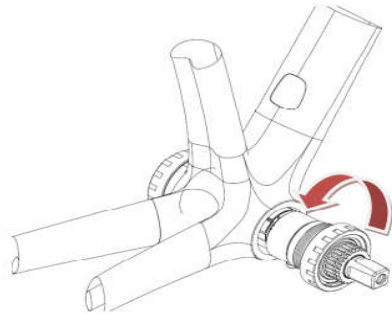

Figure 6
- (2) Enclose the sensor by the bottom bracket (the sprocket side): pass the lead through (to ensure the lead is not cut off as it runs through the outlet hole), enclose the sensor when the lead is pulled out (paying attention to the match between the positioning step and the slot).
- (3) Adjust the constant torque wrench to  $(35\pm 2)$  Nm, use the wrench to screw the right cap into the bottom bracket (the sprocket side), and tighten the lock cap as shown figure 6.